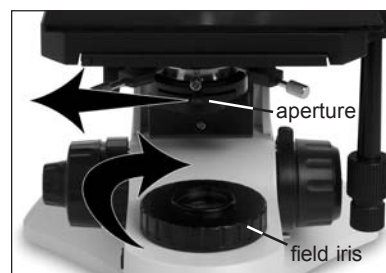

Figure 37
25. Rotate the field diaphragm dial clock-wise to fully open the iris (figure 37).
26. Shift the aperture diaphragm slider to the left to fully open the iris (figure 37).